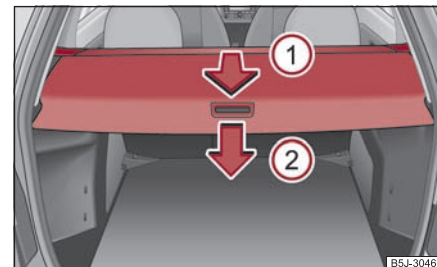

Fig. 80 Luggage compartment: foldable luggage compartment cover
- Pull the foldable luggage compartment cover in direction of arrow ① as far as the stop into the secured position ⇒ fig. 80.